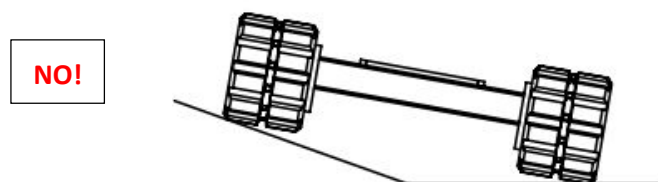

Fig. 7.5-8 - Example of an error in moving the machine: avoid holding one crawler on flat ground and the other on sloped ground
- Do not drive along the edge of a slope or on uneven ground with one crawler flat and the other inclined or partially lifted up (with the machine inclined beyond 10° approximately, Fig. 7.5-8). Always proceed with the slide blocks on the same horizontal plane to avoid damaging the crawlers.